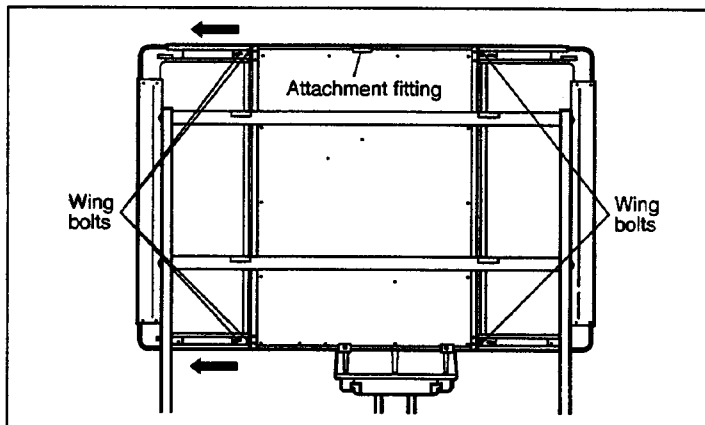

Fig. 5-1
- 1) Remove 6 wing bolts shown in Fig. 5-1.